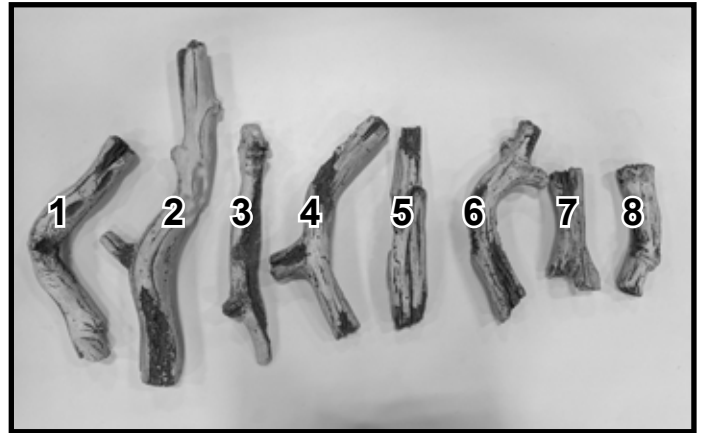

Figure 1 Log Identification
**NOTICE:** To simplify the installation process, positively identify each individual log before beginning installation. See Figure 1.